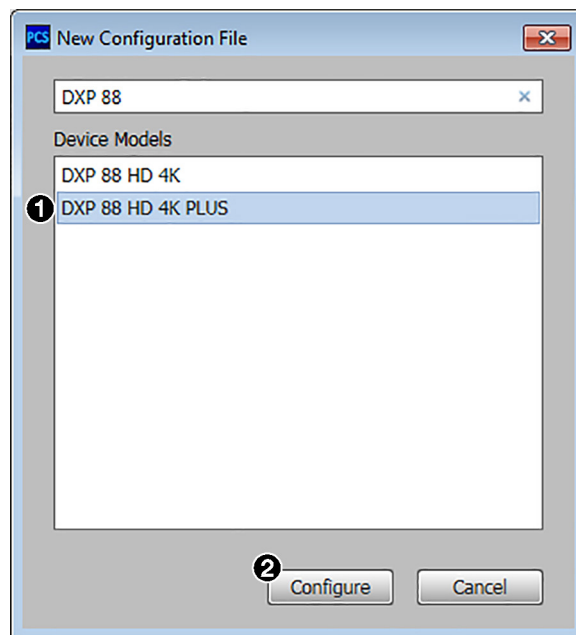

Figure 98. New Configuration File Dialog Box (DXP 88 HD 4K PLUS Selected)
2. Select the desired device model from the **Device Models** list (see figure 98, ①).
3. Click the **Configure** button (②). A new offline device configuration tab opens.